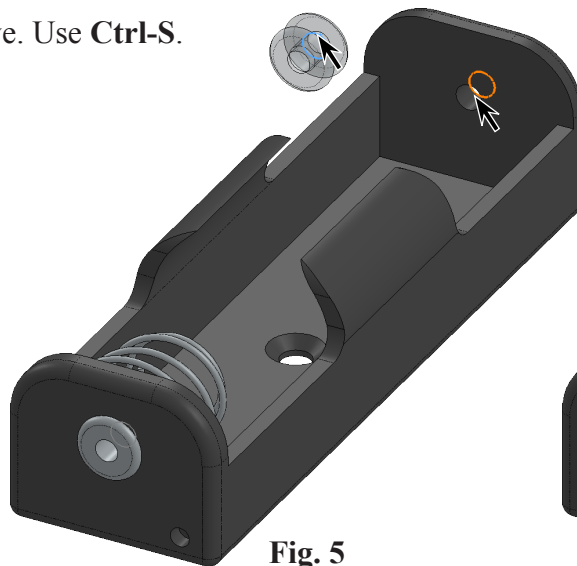

Fig. 5
Step 3. Click **rear edge inside Rivet cut** and **rear edge of rear hole in Battery Holder**, Fig. 5.